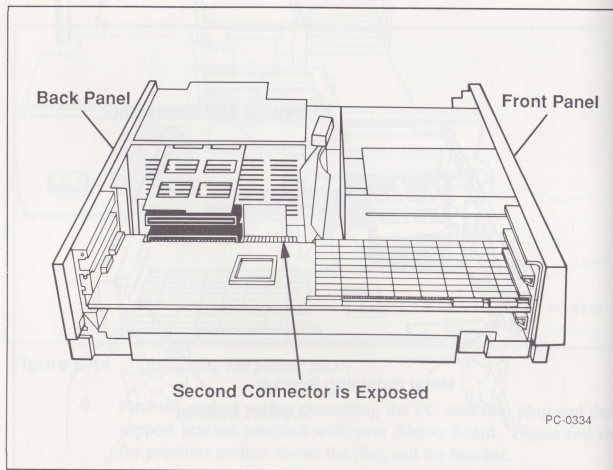

Figure 6-16 Above™ Board correctly seated in an IBM Personal System/2 Model 30 computer
- 9 The board should slide easily most of the way into the unused expansion slot. When you feel some resistance, check the alignment. When aligned, push firmly to seat the board in the expansion slot connector. Figure 6-16 shows the Above Board correctly seated in an expansion slot.
When the Above Board is correctly seated in the Model 30 expansion slot, the board's second connector is exposed as shown in Figure 6-16. The second connector isn't exposed in the Model 30 286.